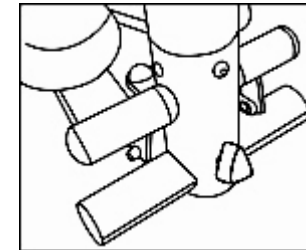

Figure 3
4. One side of the stepper will be automatically lifted up as the tension key gets screwed in deeper into the tube. It might get harder to screw in once it gets deeper (see figure 3)